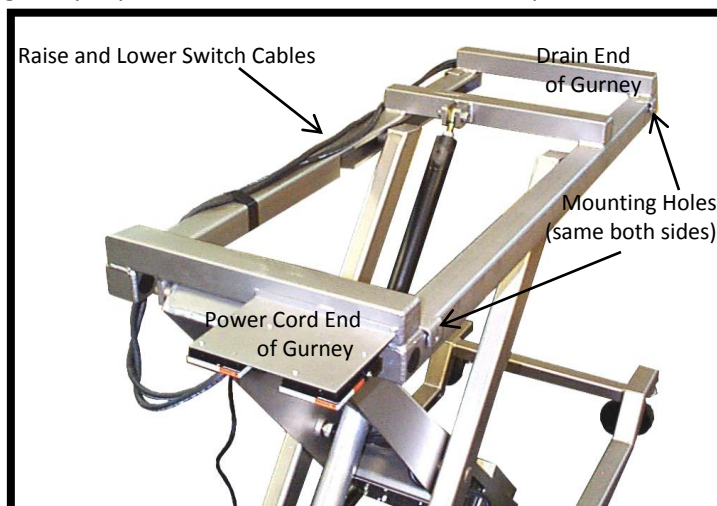

Figure 25: Unit with Gurney Top Removed
1. Note the locations of the mounting holes that the tie-down bolts must enter (Figure 25).
2. Place the new gurney top on the unit so that the holes on the tie-down rails and gurney top frame align with the mounting holes shown in Figure 25. **Note:** The end of the gurney with the drain hole goes AWAY from the end of the unit with the electric power cord.